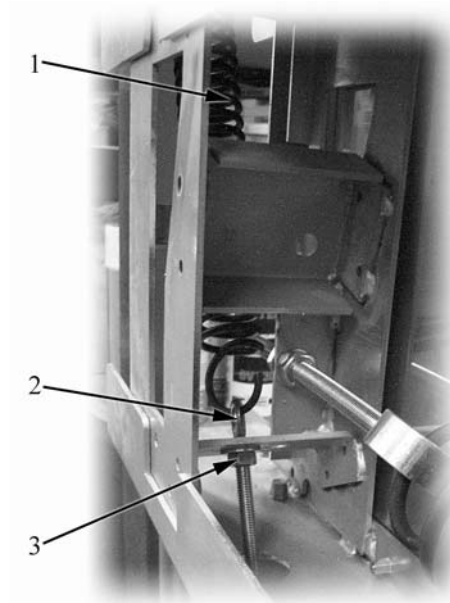

Fig. 24
- loosen the fixing nut (item 3 in Fig. 24) of the right or left spring tie (item 2 in Fig. 24) according to the spring to be replaced, until it is released completely;